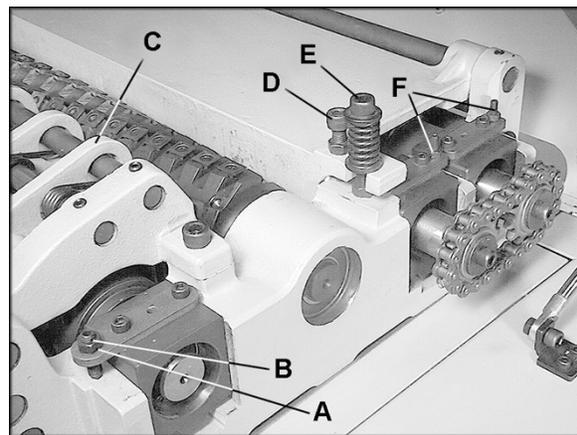
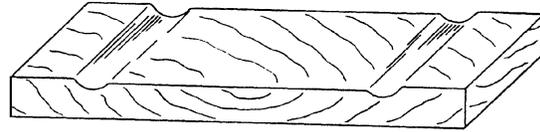

Figure 11
Figure 16
5. If it is not  $1/16$ ", correct by loosening the hex nut (A, Figure 11) and turning the adjustment screw (B, Figure 11) with a hex wrench.
6. Move the gauge to the extreme opposite end of the infeed roller and check. Make necessary adjustments. Tighten hex nuts (A, Figure 11) when finished.
The chipbreaker (C, Figure 11) is a sectionalized type made of spring-loaded sections mounted on a bar, which complements the sectional infeed roller. The functions of the chipbreaker are to break chips into small pieces, help avoid splintering of the wood, help avoid board bounce on thinner boards, to direct the flow of chips out of the machine, and to permit multiple board surfacing.
Use a gauge to set the full length of the pressure bar to be .000-.001” (.02mm) below the arc of the cutterhead. Figure 11 shows the height adjustment screw (D) and the spring tension adjustment screw (E) for the pressure bar. This initial setup is a starting point and final adjustment may have to be made during a test cut.
Adjust as necessary using the screws (F, Figure 11). When finished adjusting, tighten the hex nuts on the screws (F, Figure 11).
If clip marks occur 6" (152mm) in from each end of the board, the pressure bar is too high. See Figure 16. Turn both right and left hand adjusting screws (see Figure 11) the same amount, 1/4 turn clockwise or less, and take another 1/16" (1.59mm) deep cut. Re-examine the board.